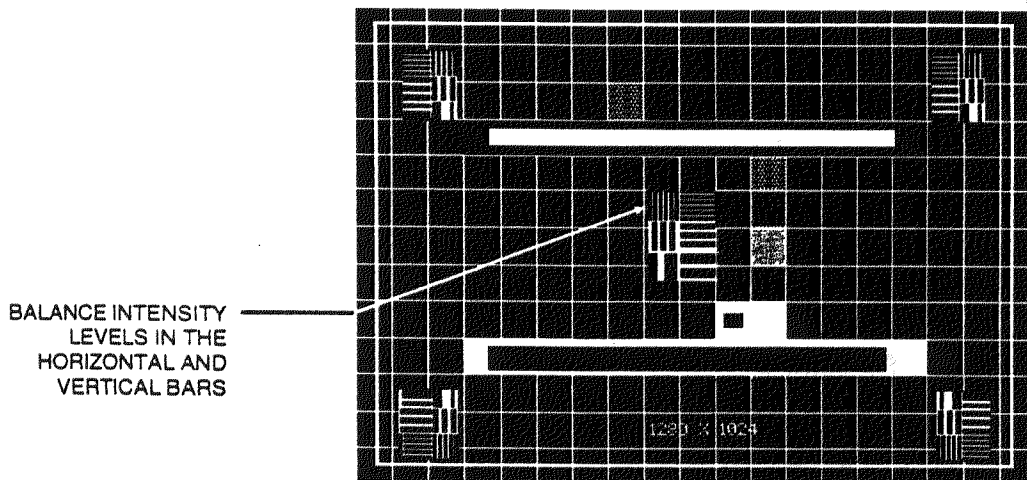

FIGURE 10-12. SMPTE 133 RESOLUTION PATTERN.
- **If necessary**, adjust trimmer capacitor, C28 on the Amplifier Card (component side) under test to obtain equal levels (balance) of the black resolution lines in both the vertical and horizontal resolution blocks. See Figure 10-12.